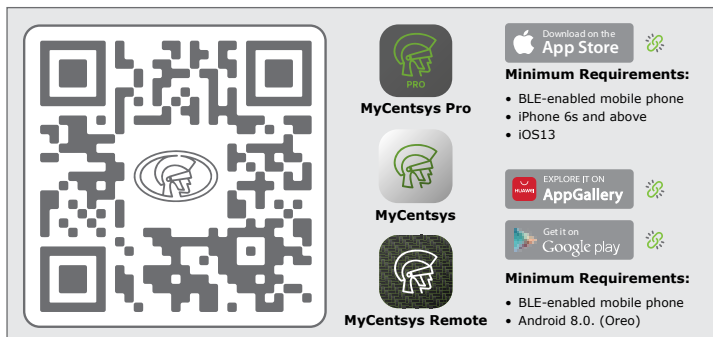

FIGURE 88
1. Tap or scan the linked the QR Code or applicable App Store Icon in Figure 88.